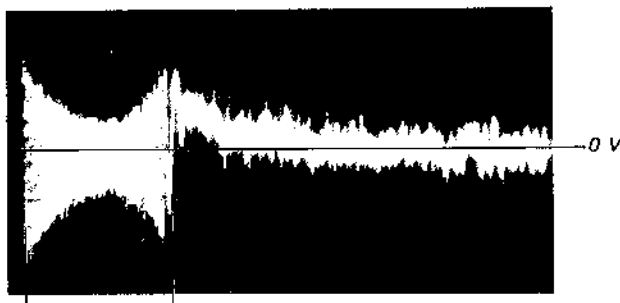

Fig. 11
7. Select AMS mode with the MODE button, continuously press ►► or ◄◄ key and observe the 100 track jump waveform. Check that no traverse waveform appears for both ►► and ◄◄ directions. (See Figures 11 and 12.) It is acceptable if the traverse waveform appears only now and then, but if it appears constantly, raise tracking gain slightly and check step 7 again.
- Select AMS mode with the MODE button, continuously press **▶▶** or **◀◀** key and observe the 100 track jump waveform. Check that no traverse waveform appears for both **▶▶** and **◀◀** directions. (See Figures 11 and 12.) It is acceptable if the traverse waveform appears only now and then, but if it appears constantly, raise tracking gain slightly and check step 7 again.